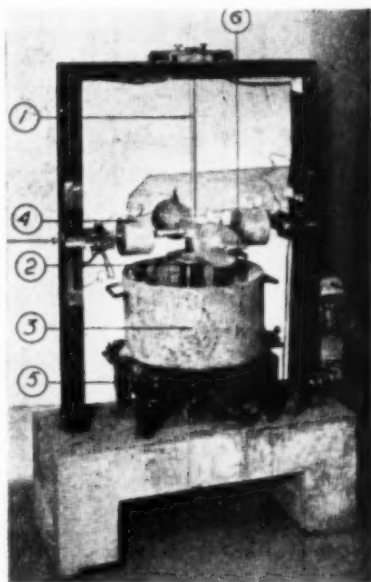

Fig. 1.
A device for measuring the deformability has been developed in which the free natural oscillation of a system is damped by the concrete, the damping increasing as the deformability becomes lower. The oscillating system (*Fig. 1*) consists of a vertical torsional shaft (1) the upper end of which is clamped to the frame and the lower end coupled to the concrete by means of the device (2). The concrete is filled into the container (3) and bolted to the vibrator (5). The frequency of